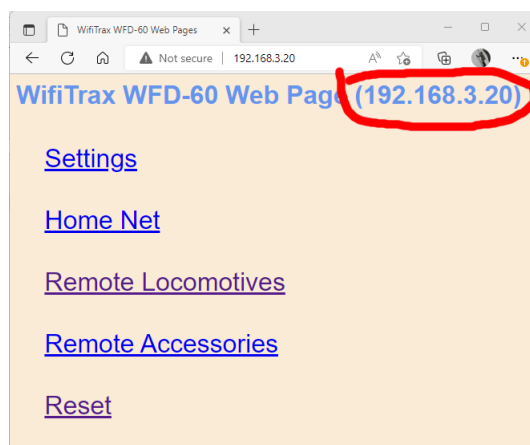
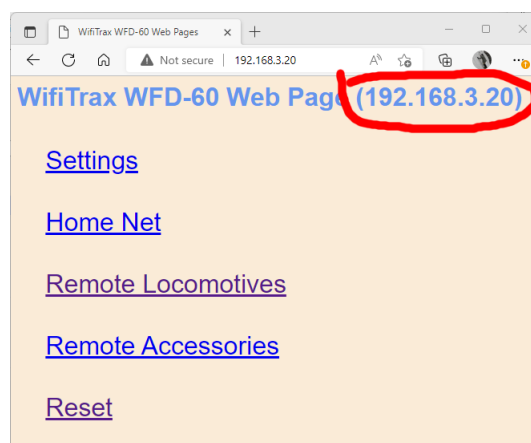

Figure 13 The Main Menu of the WFD-60 once it is Connected to a Home Net. The IP Address is Assigned by Your Router and is Circled in Red.
Figure 29 The Main Menu of the WFD-60 once it is Connected to a Home Net. The IP Address is Assigned by Your Router and is Circled in Red.
- (10) Now take your phone or tablet and use the Android or Apple Settings to connect to your home net.
- (11) Start Engine Driver or the full version of WiThrottle and make sure that it finds the WiThrottle Server of the WFD-60 and connect to it.
- (12) Go to the Web Pages so that you see the Main Menu. An example is shown in Figure 13. Make a note of the IP Address circled in Figure 13. This is assigned by your router. In this example the subnet is 192.168.3.0 and the IP Address 192.168.3.20 is the first one found available by the router. Yours might be different like 192.168.15.5 or even something like 10.0.0.9.
- (9) Now take your phone or tablet and use the Android or Apple Settings to connect to your home net.
- (10) Start Engine Driver or the full version of WiThrottle and make sure that it finds the WiThrottle Server of the WFD-60 and connect to it.
- (11) Go to the Web Pages so that you see the Main Menu. An example is shown in Figure 29. Make a note of the IP Address circled in Figure 13. This is assigned by your router. In this example the subnet is 192.168.3.0 and the IP Address 192.168.3.20 is the first one found available by the router. Yours might be different like 192.168.15.5 or even something like 10.0.0.9.